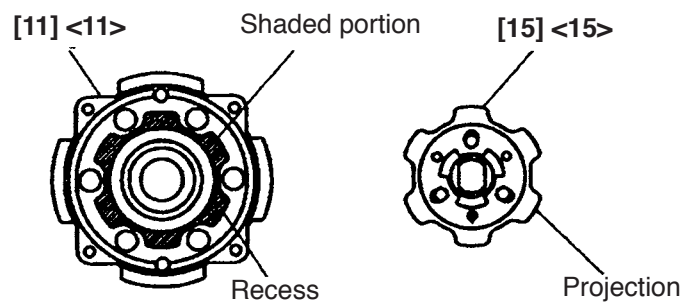

Fig. 9
- ① Apply grease approx. 1.2 g (Hitachi Motor Grease No. 29) to the shaded portion in the Front Case [11] <11> (See Fig. 9).
- ② Mount the Lock Ring [15] <15> to the Front Case [11] <11> so that the projections on the Lock Ring [15] <15> engage with the recesses in the Front Case [11] <11>. Make sure that the flat plane of Lock Ring [15] <15> faces the Front Case [11] <11> (see Fig. 9).